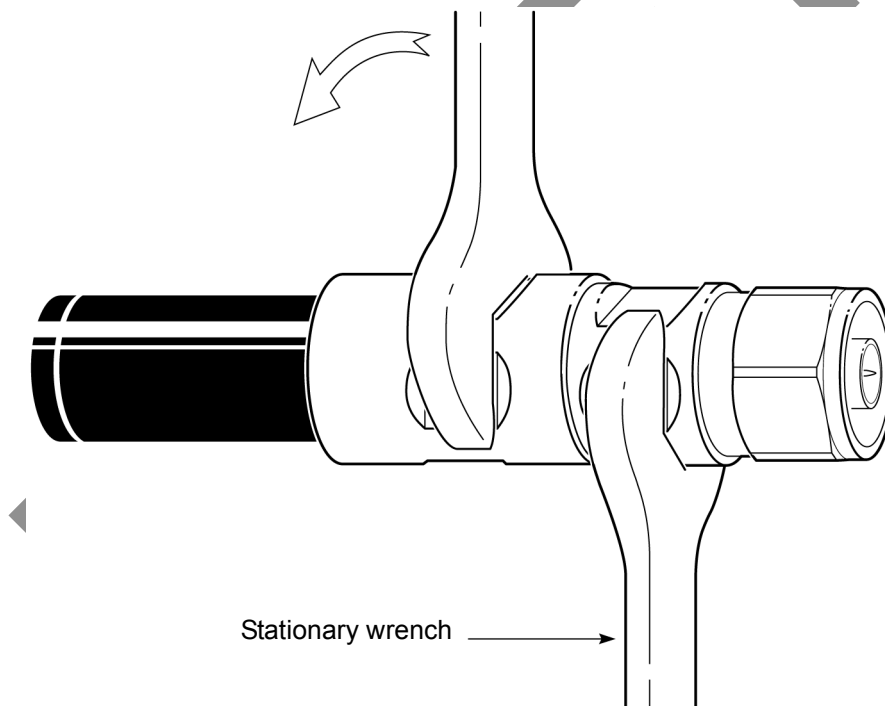

Figure 81 – Assembling the connector
13. Add the end of the connector to the connector body. Hold the end of the connector stationary with one wrench, and thread the connector body onto the connector end by turning it with another wrench; see *Figure 81*. Do not turn the connector end, only turn the connector body. Tighten to 1.9 to 2.4 Nm (16.8 to 20.8 in.-lb) of torque.